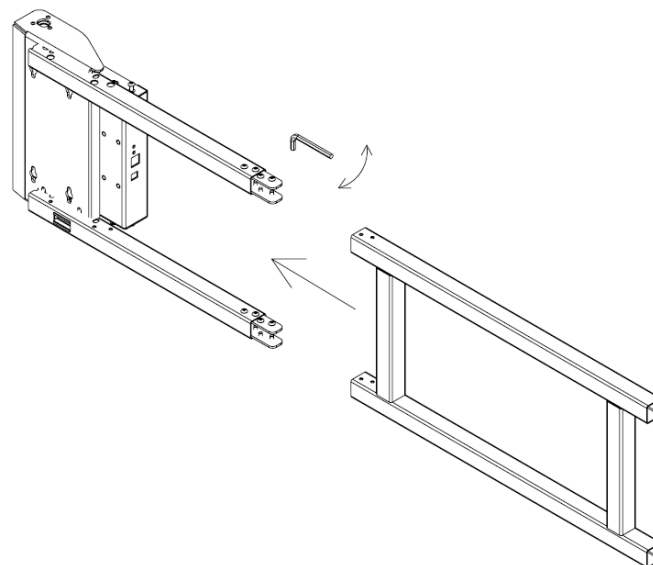

fig. 2
2. Screw the arm to the Swing Mount with the M5x10 screws (fig. 2).